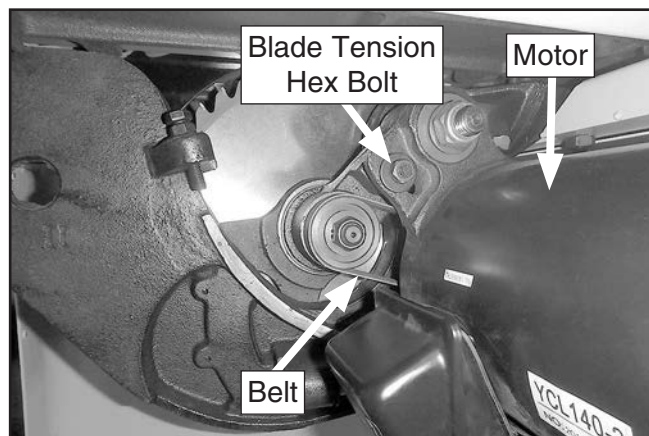

Figure 131. Components used to tension or remove belt.
4. Loosen blade tension hex bolt shown in **Figure 131**.
4. Loosen blade tension hex bolt, shown in **Figure 131**.